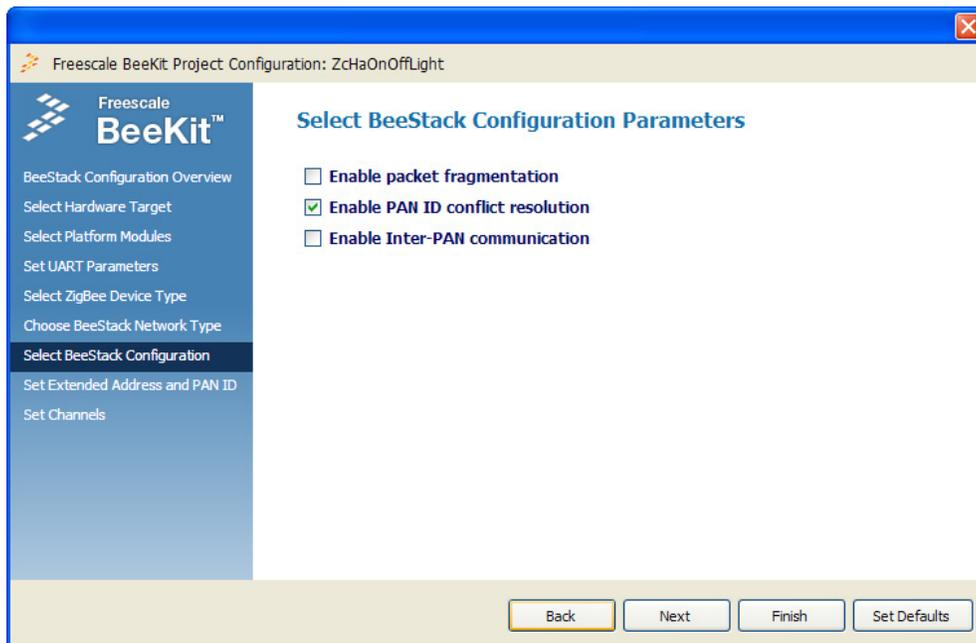

Figure 3-10. BeeStack Configuration Parameters Codebases
11. The window as shown in Figure 3-10 displays additional BeeStack configuration options.